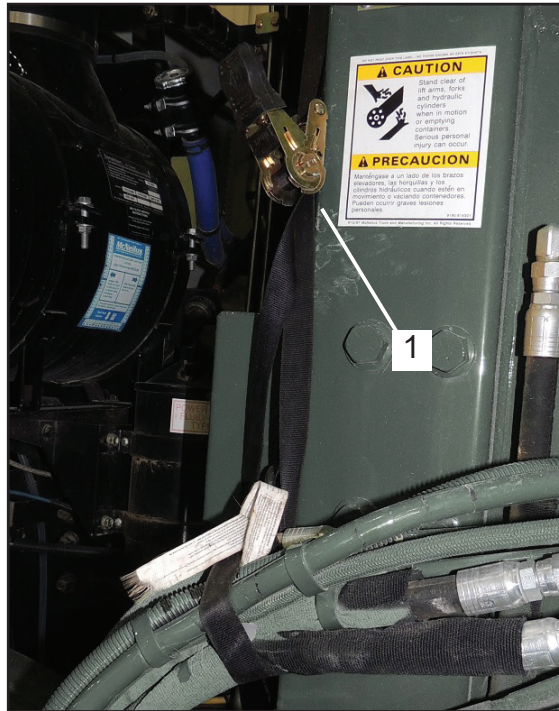

Figure 5
11. Use appropriate strapping (Figure 5, Item 1) to safely secure the hydraulic lines out of the way at the arm base. Be careful not to bend, kink or damage any of the cables or hydraulic lines.